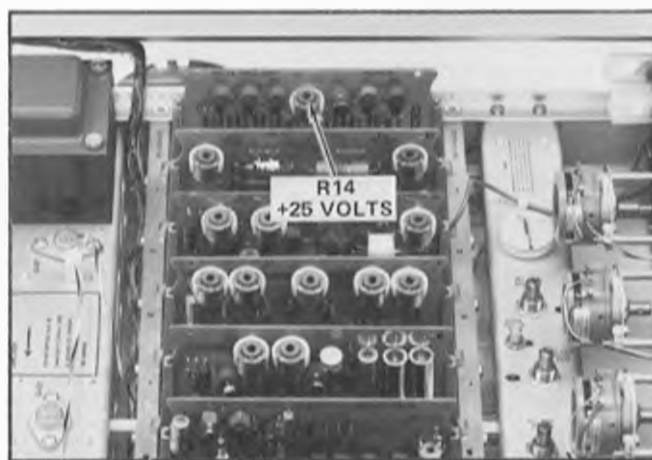

Fig. 6-4. Location of R14, and +25 VOLTS adjustment on the Power Supply circuit card.
d. ADJUST—R14, the +25 VOLTS adjustment on the Power Supply circuit card (see Fig. 6-4), if the voltage is not correct.
Voltage Test Point (Fig. 6-4)	Ripple (60 Hz or 120 Hz Component)